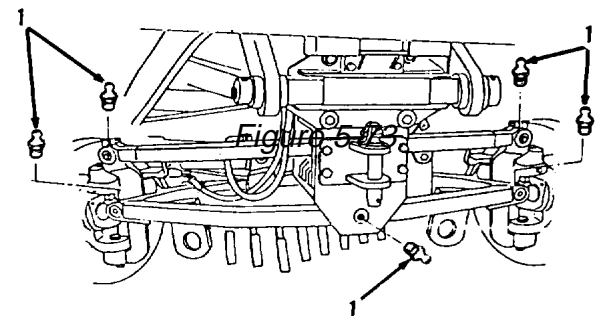

Figure 5-67.
10. Lubricate and install six fittings (1, Figure 5-67). Refer to LO 5-3805-261-12.